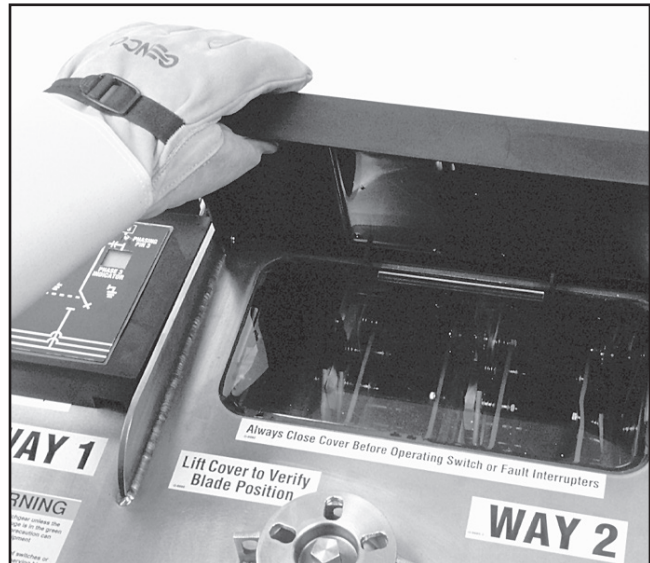

Figure 13. The window cover lifts for viewing the switch or fault-interrupter disconnect blade position.
**STEP 10.** Open the viewing window cover and confirm the position of the load-interrupter switch or the single-pole or three-pole fault-interrupter disconnect by visually observing the position of the blades. See Figures 13 and 14.
**STEP 12.** Open the viewing window cover again and confirm the position of the load-interrupter switch or single-pole or three-pole fault-interrupter disconnect by visually observing the position of the blades. See Figures 13 and 14 on page 12.